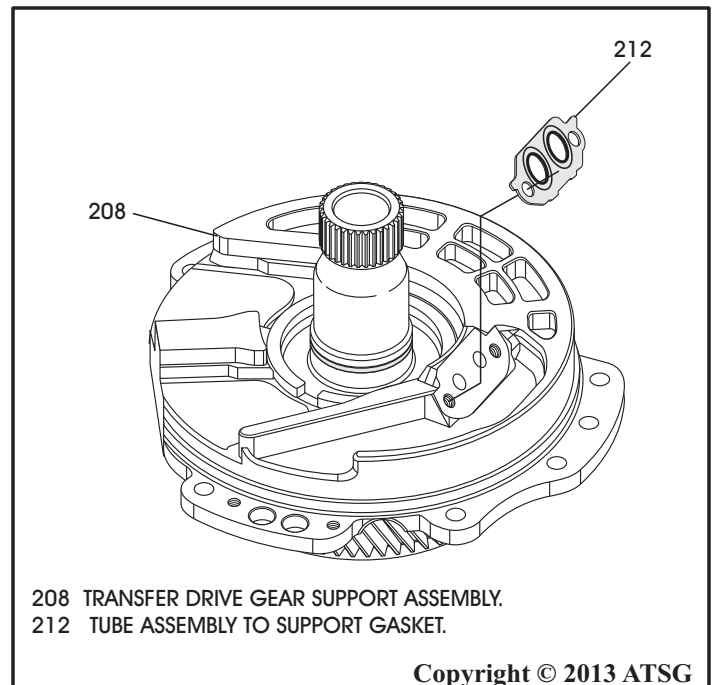

Figure 105
9. Install a new tube assembly gasket onto the support, as shown in Figure 105.